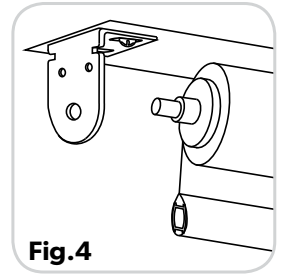

Fig.4
- C. Install the left side by sliding the idle end into the idle end bracket. (Fig. 4)